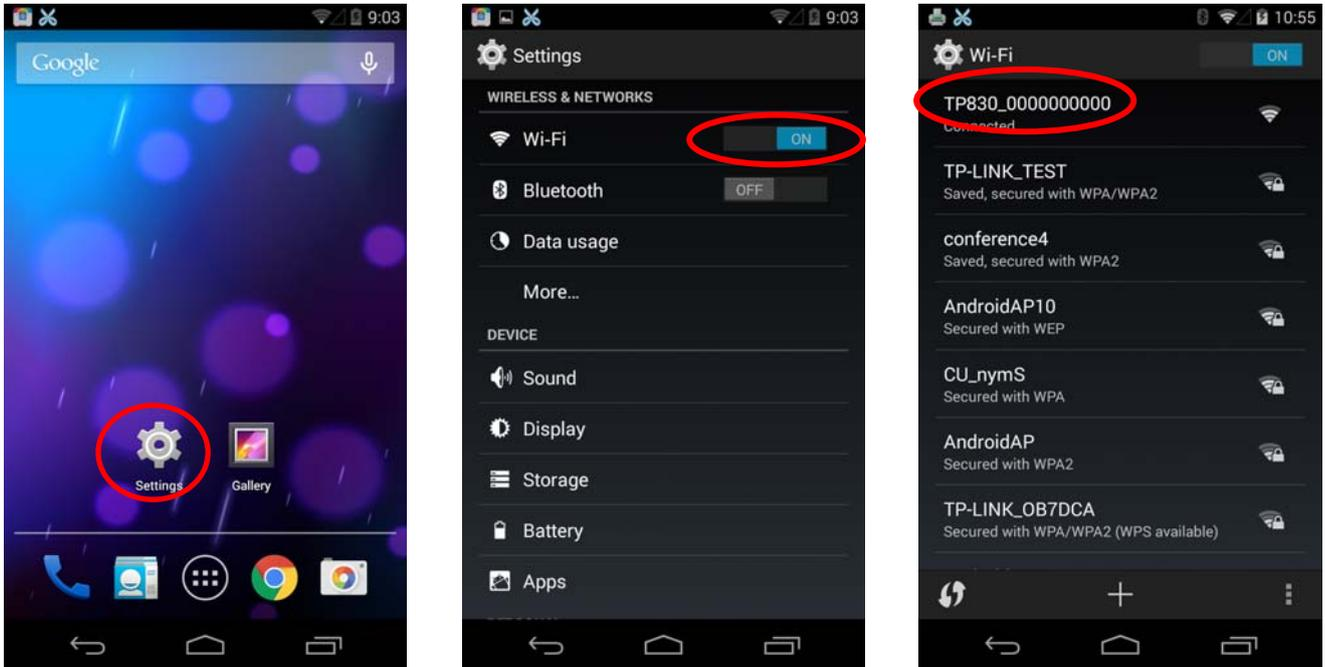

Figure 2
2. Click “Settings” and the interface pops up. Select the “WLAN” function to “ON”, then click the printer Wi-Fi searched by the mobile phone to connect. The printer Wi-Fi default name is composed of “t the printer model+10 SN numbers” (as shown in Figure 2).